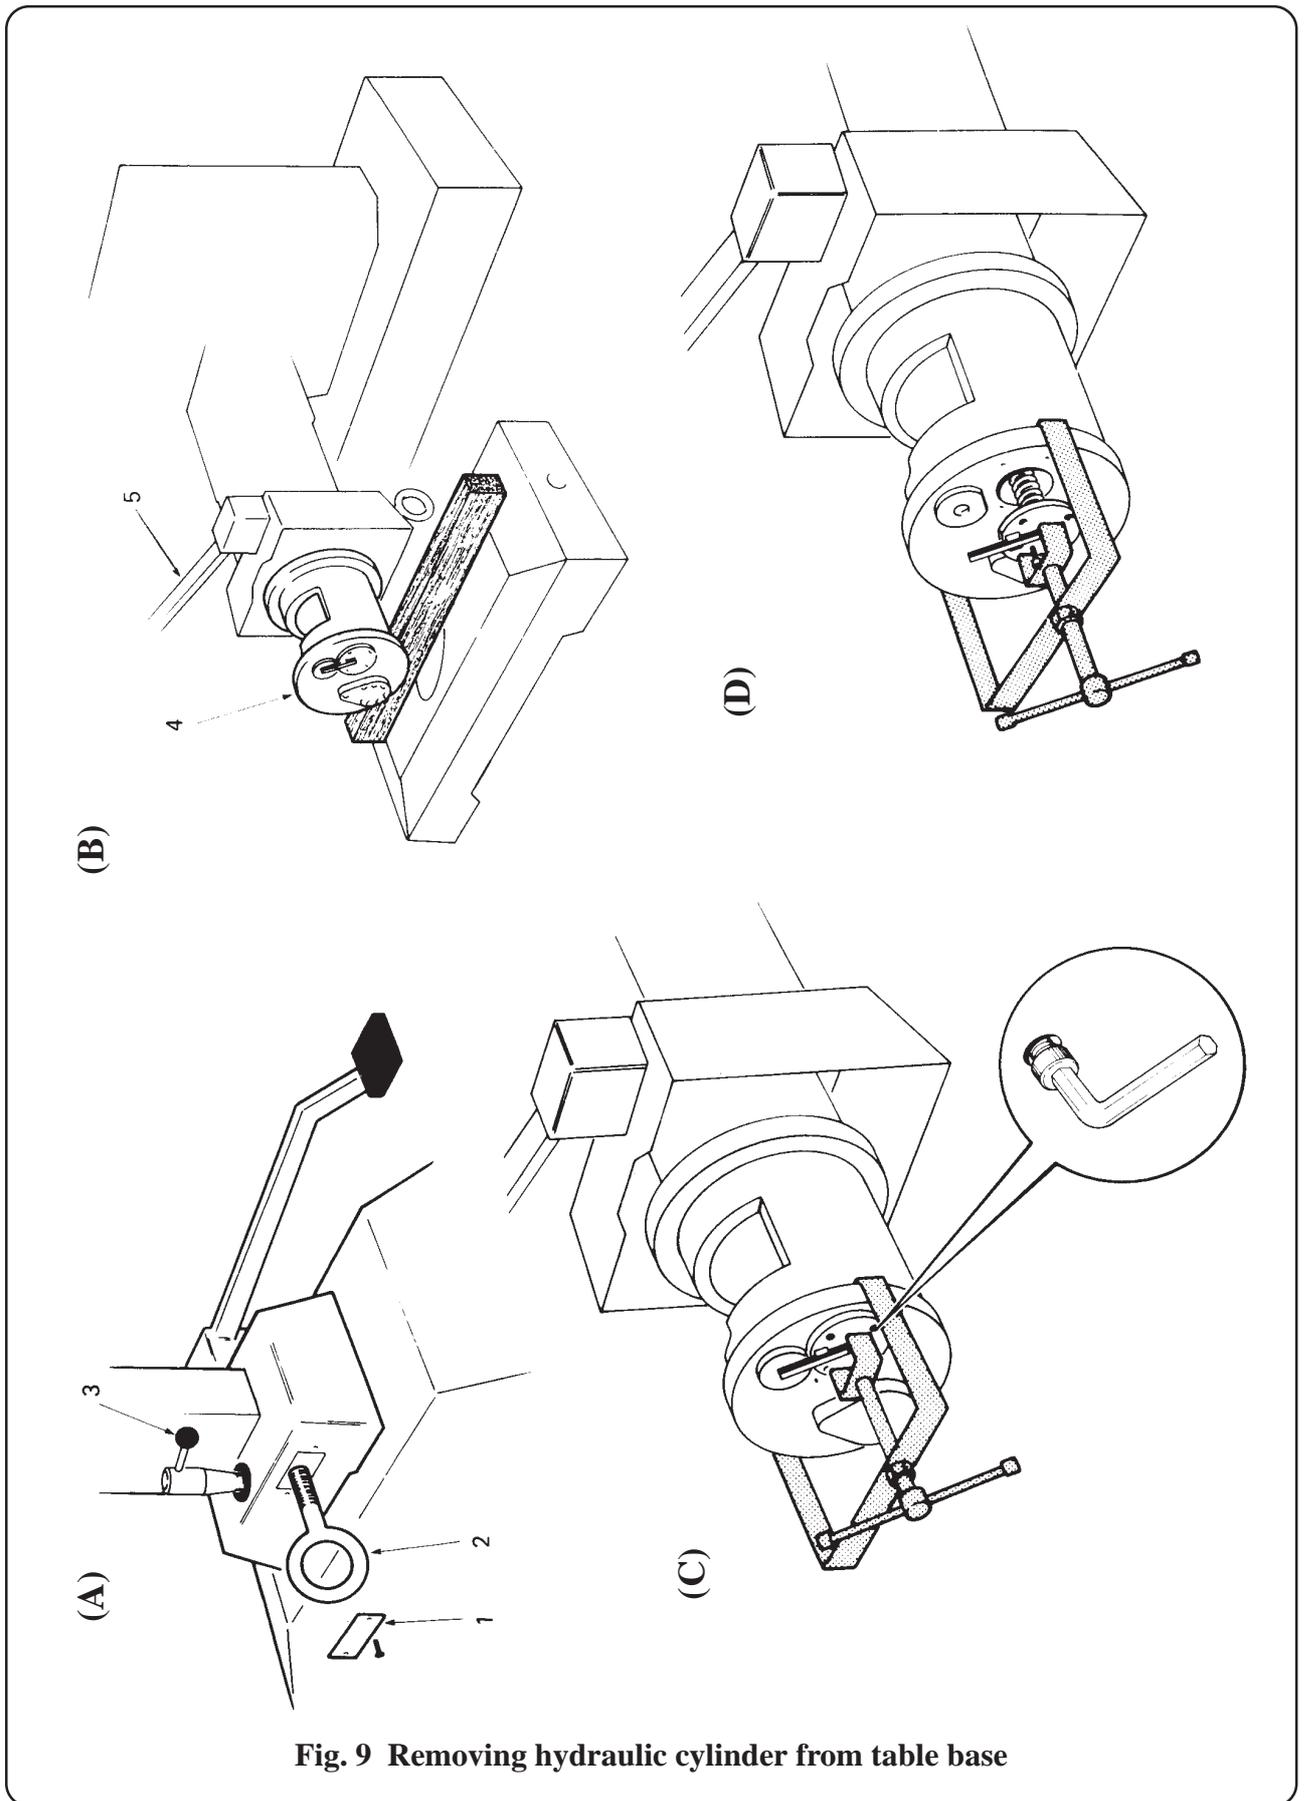

Fig. 9 Removing hydraulic cylinder from table base
Inability to raise table top (Fig. 9 and 10)
Table top not maintaining height (Fig. 9 & 10)
Operation table will not lower (Fig. 9 and 11)
- i Position the compression tool clamp (included in the tool kit available for the MR series tables) across the base of the cylinder (see Fig. 9(c)) and lightly tighten it onto the ram release. Use an Allen key to remove the four screws holding the ram release in position.
- iii Continue to unscrew the clamp until completely loose then remove clamp and ram release (see Fig. 9(d)).
Removing hydraulic cylinder from table base (Fig. 9)
- i Remove cover plate (3) taking care not to damage the sealing gasket; the ram cup washer will then be exposed.
- ii Remove washer retaining screw (6), washer (11), ram cup washer (4) and backing disc (7).
- iii Refit the backing disc (7) together with a new cup washer (4) smearing the latter with a little of the oil used for the table hydraulics.
- v Refit cover plate (3) and sealing gasket (8), then manhandle table into base ensuring, before doing so, that the cylinder locking lever (3) Fig. 9 is refitted.
Changing hydraulic oil (Fig. 9)